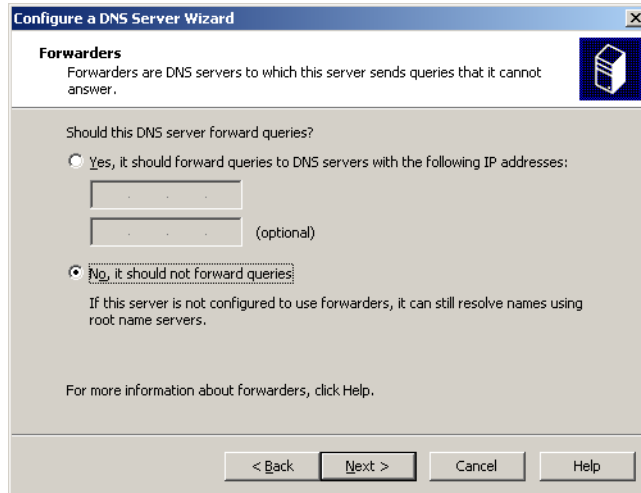

Figure D-53 Forwarders
12. Review the **Forwarders** dialog shown in figure D-53 and enter the IP address of DNS servers that this server will forward to if it is unable to resolve the request locally. Click the **Next** button when ready to continue.